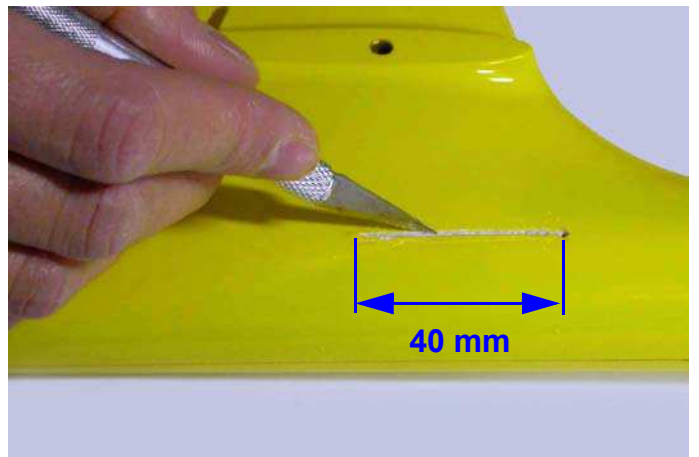

Fig.30: .Cut.
- using a cutter, cut along the marked line (see figure 30);